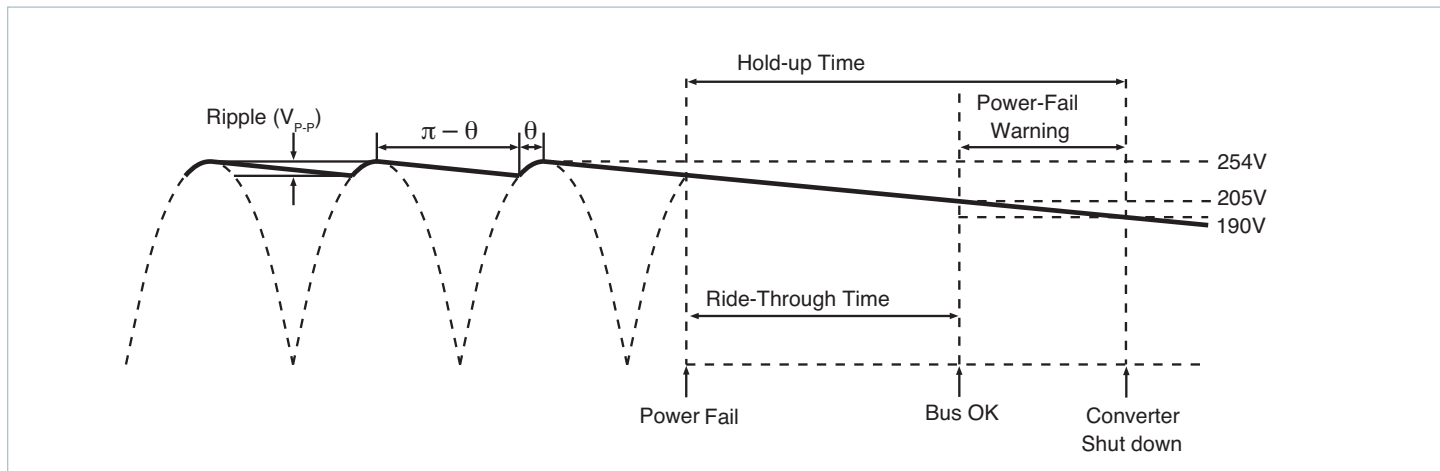

Figure 15 — Hold-up time
Hold-up capacitor values should be determined according to output bus voltage ripple, power fail hold-up time, and ride-through time (see Figure 15). Many applications require the power supply to maintain output regulation during a momentary power failure of specified duration, i.e., the converters must hold-up or ride through such an event while maintaining undisturbed output voltage regulation. Similarly, many of these same systems require notification of an impending power failure in order to allow time to perform an orderly shut down.
The power fail warning time ( $\Delta t$ ) is defined as the interval between BOK and converter shut down (EN) as illustrated in Figure 15. The Bus-OK and Enable thresholds are 205V and 190V, respectively. A simplified relationship between power fail warning time, operating power, and bus capacitance is obtained by inserting these constants in Equation 3:
Equation 3 is again used to determine the required capacitance. In this case, V1 and V2 are the instantaneous values of bus voltage at the peaks and valleys (see Figure 15) of the ripple, respectively. The capacitors must hold up the bus voltage for the time interval ( $\Delta t$ ) between peaks of the rectified line as given by: